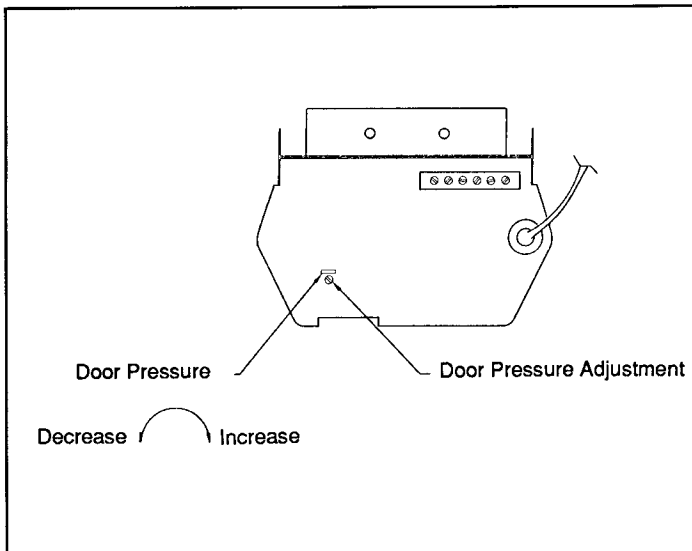

Figure 21
Step 55: If the door does not reverse upon encountering the obstruction, turn the door pressure adjustment lightly toward the decrease (see Figure 21).